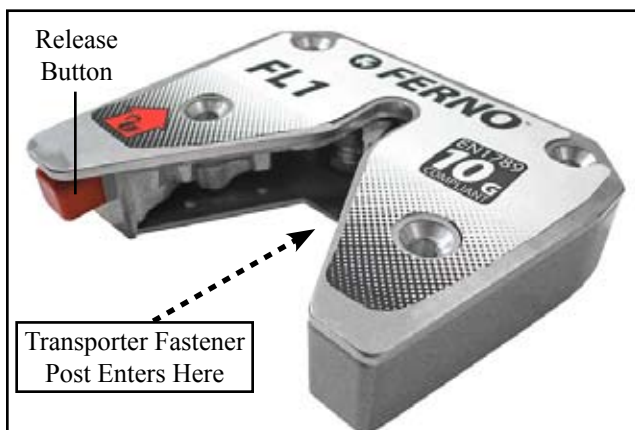
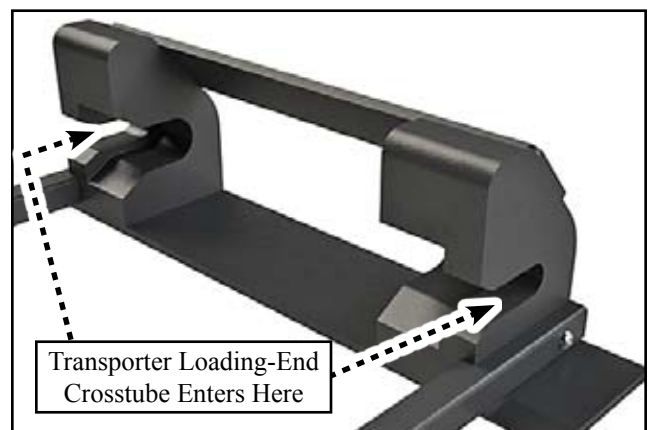

Figure 2 - Lock Box
Figure 3 - Towers
3. Push the transporter firmly into the fastener until the transporter loading-end crosstube is seated in the tower pockets and the transporter post engages the lock inside the lock box (Figure 2 and Figure 3).
1. To release the transporter from the fastener, press the release button on the lock box (Figure 2) and begin pulling the transporter out of the ambulance.